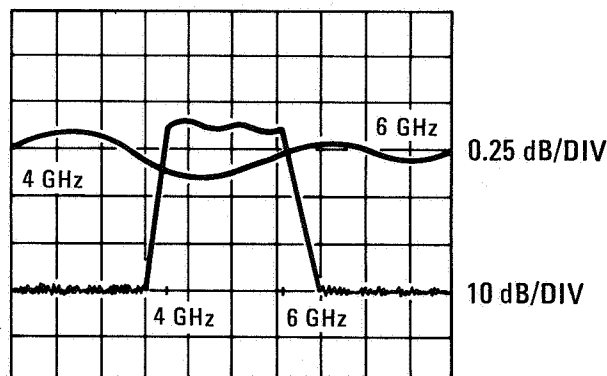

Figure 9. Alternate Sweep Function Display
**Alternate Sweep Function.** The ALTn function of the 8350A allows two different frequency and power settings to be swept on successive sweeps. The front panel setting and the setting stored in a memory register location n ( $n=1, \dots, 9$ ) can be selected for alternate sweeps. The Alternate Sweep Function will not work properly with the 8755A or 8755B. See Figure 9 for a sweep display of the ALTn function when used to view a bandpass response at different resolutions and offsets.